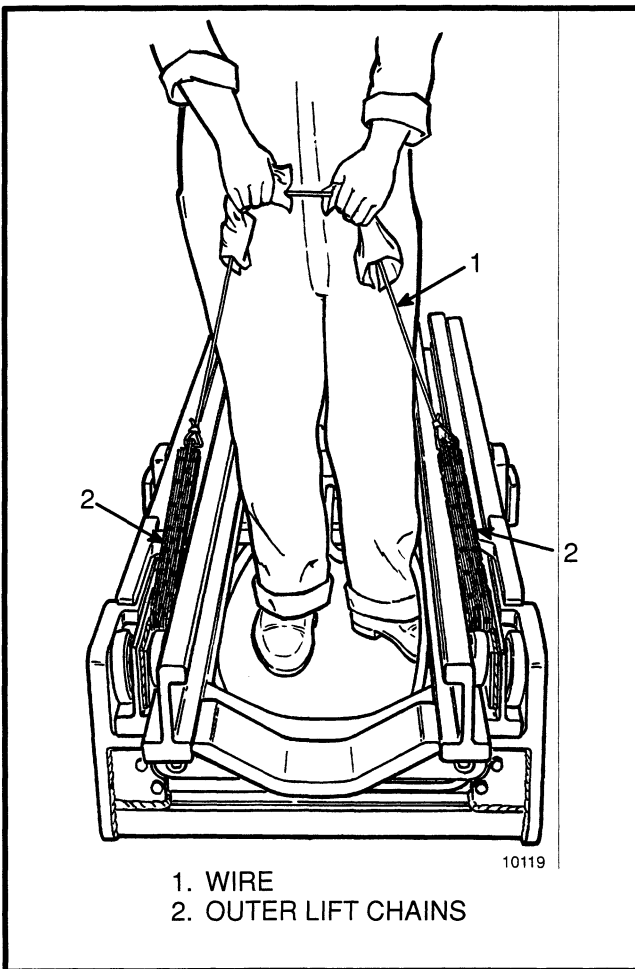

FIGURE 11. INSTALLING THE OUTER LIFT CHAINS
- d. Connect each end of a wire approximately 1800 mm (6 feet) long to the end of each lift chain as shown in FIGURE 11. Make sure that each chain will be pulled vertically.